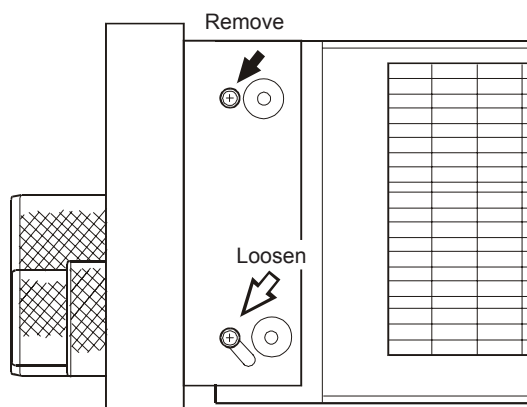

Figure 3
5. Referring to Figure 3, remove the screws (←) at the top left and top right that hold the front panel assembly in place, and loosen the two screws (⇨) at the bottom left and bottom right, so they can hold the front panel as it is folded forward.